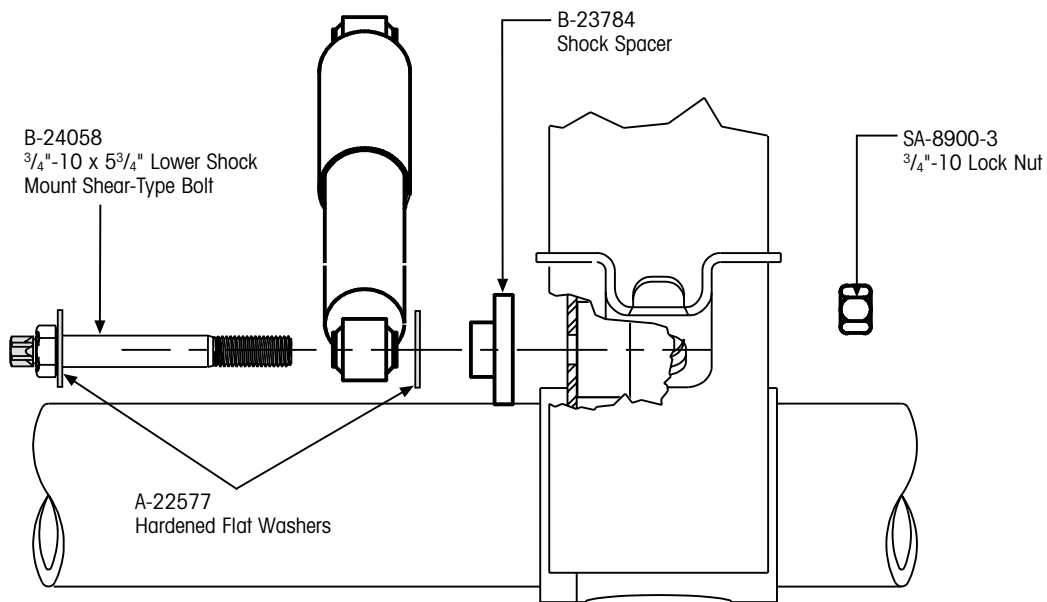

Figure 7. AA230/AA250 Rev. C (Damaged Thread)
8. Insert the shear-type shock bolt through the flat washer, shock, flat washer and spacer, through the $\frac{3}{4}$ -inch hole and begin threading onto the nut (Figure 7, page 7).